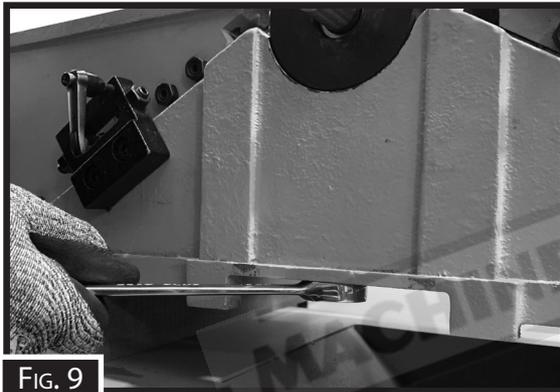

FIG. 9
12. Unbolt the two spindle mounting bolts. (Fig.9)